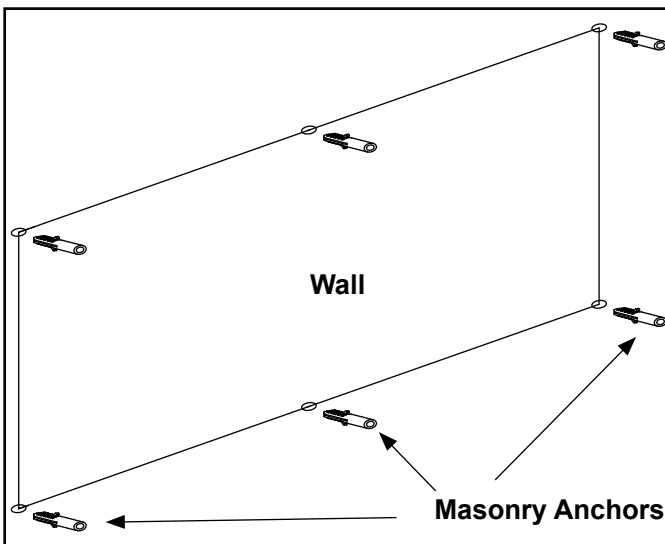

Figure 4.7 Masonry Anchor Placement
**NOTICE:** Minimum six (6) anchored screws are required for wall mounting the SF-ALLS40, SF-ALLS50, and SF-ALLS60. Minimum of eight (8) anchored screws are required for wall mounting the SF-ALLS72.
- In the marked locations, drill 5/16 in. diameter x 1-1/2 in. deep holes. See Figure 4.7.